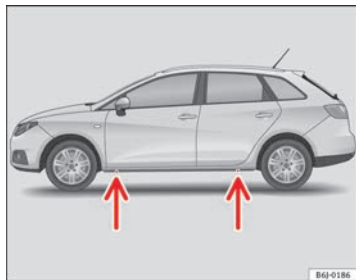

Fig. 137 Jack position points
- Locate the jacking point under the door sill closest to the wheel to be changed ⇒ **fig. 137**.
Recesses at the front and rear of the door sills mark the jacking points ⇒ **fig. 137**. There is only one jacking point for each wheel. Do not fit the jack anywhere else.